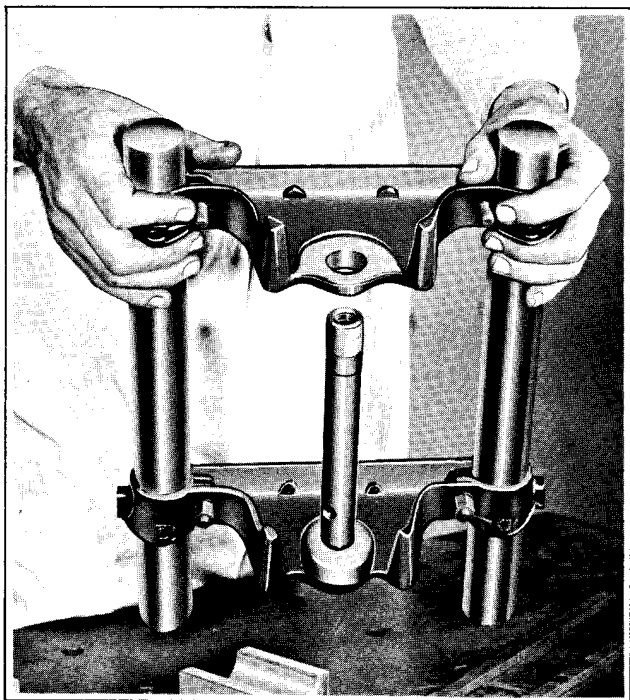

Figure 2-33. Checking Stem Alignment with Gauge
6. Check fork stem alignment with Fork Stem and Bracket Aligning Gauge as shown in Figure 2-33. Use Bending Bar to bring stem into position. Re-check the fork completely.